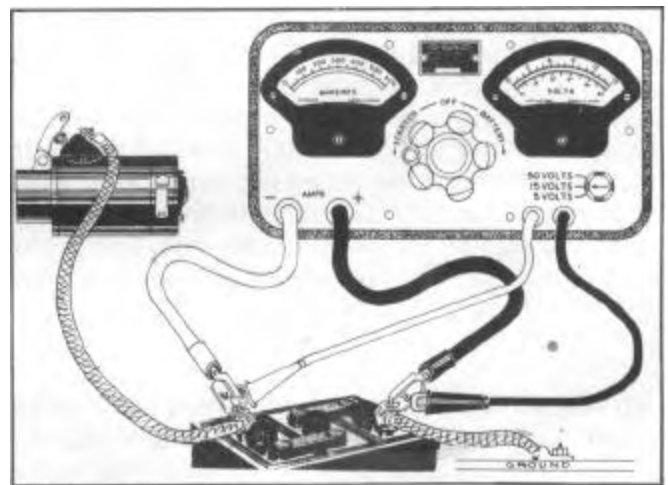

FIGURE 6
2. Turn the voltmeter "selector switch" to the 15 volt position and connect test leads, Figure 6.